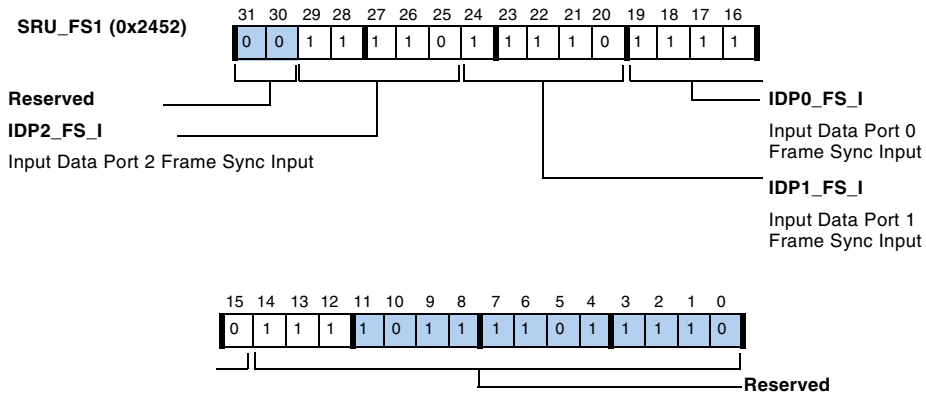

Figure A-44. SRU\_FS1 Register
- SRU\_FS1, described in Figure A-44